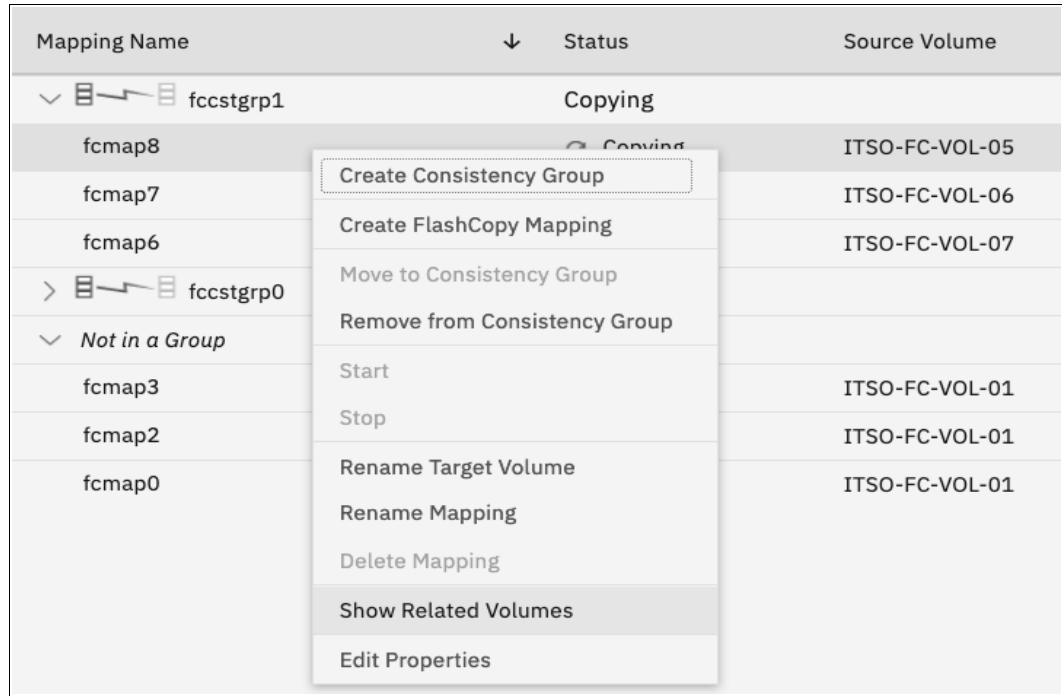

Figure 10-43 Showing related volumes for a mapping, a consistency group, or another volume
2. Right-click a FlashCopy mapping and select **Show Related Volumes**, as shown in Figure 10-43. Also, depending on which window you are inside Copy Services, you can right-click at mappings and select **Show Related Volumes**.